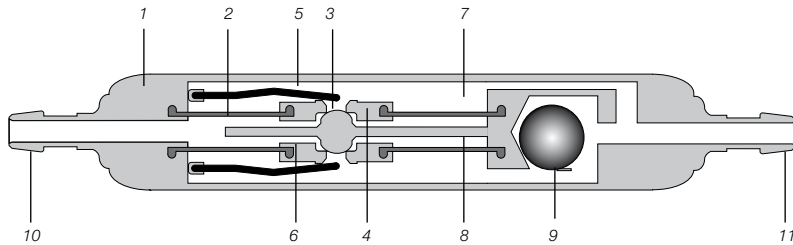

Fig. 1: Schematic cross section of the *DUALSWITCH VALVE*
The *DUALSWITCH VALVE* was developed with the aim to avoid known problems (blocked drainage system, overdrainage, influence of the subcutaneous pressure) in the treatment of hydrocephalus. The *DUALSWITCH VALVE* features two parallel chambers, one for the patient vertical and one for the horizontal position. Fig. 1 shows a schematic cross section of the *DUALSWITCH VALVE*. The robust titanium casing (1) contains two titanium discs (3) connected to the casing by two silicone membranes (2). Two yoke springs (5), (6) of different strength act on these discs and determine the opening pressure with their respective preload force. The springs press the pressure discs against a ball (4) integrated into the casing. In this way, the drill holes in the discs are closed and the valve is closed. The stronger one of the two